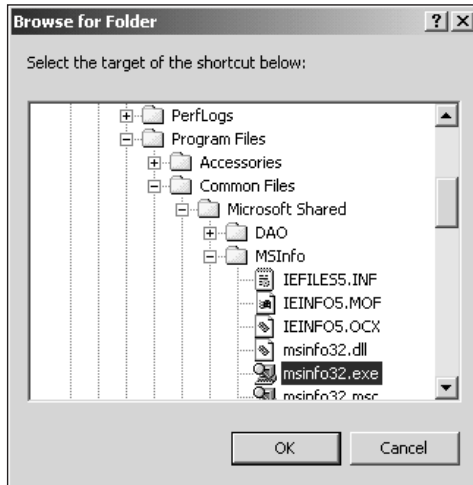

Figure 5-16 Creating a shortcut to Msinfo32.exe
3. Click **Msinfo32.exe**, and then click **OK**. See Figure 5-16.